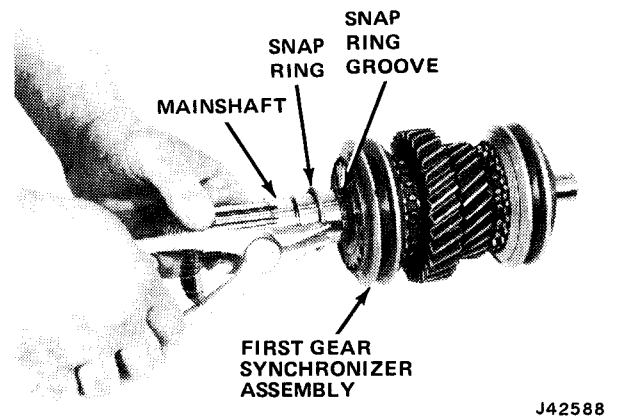
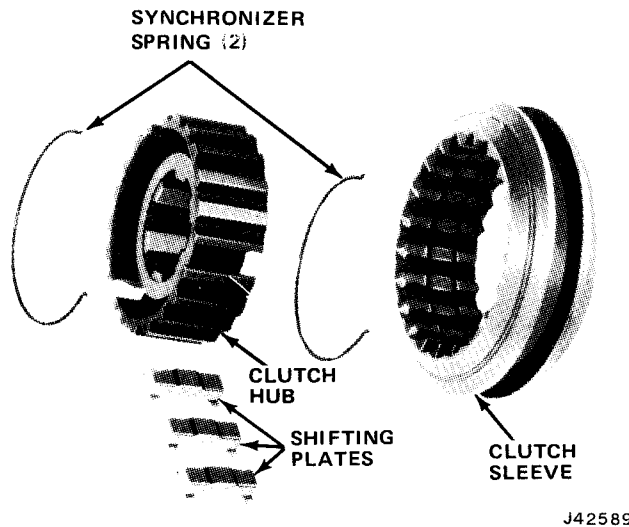

Fig. 6-24 First Gear Synchronizer Hub Snap Ring Removal—Installation
Fig. 6-25 Second-Third Synchronizer Assembly
(12) Install First gear clutch hub snap ring (fig. 6-24).
(13) Install Second gear and blocking ring on main shaft.
(14) Assemble Second-Third synchronizer assembly (fig. 6-25). Index sleeve to hub using alignment marks